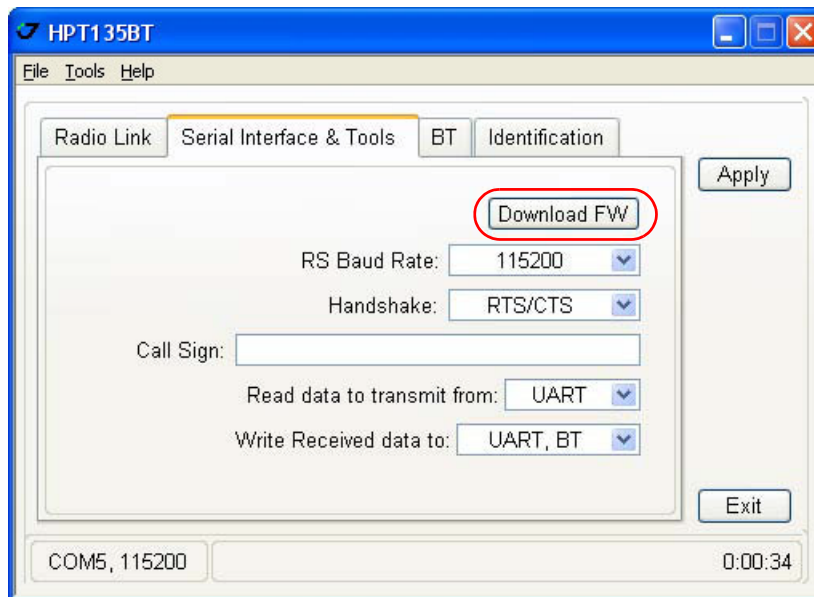

Figure 9. Serial Interface & Tools tab
5. Click *Download Firmware* button (Figure 9).